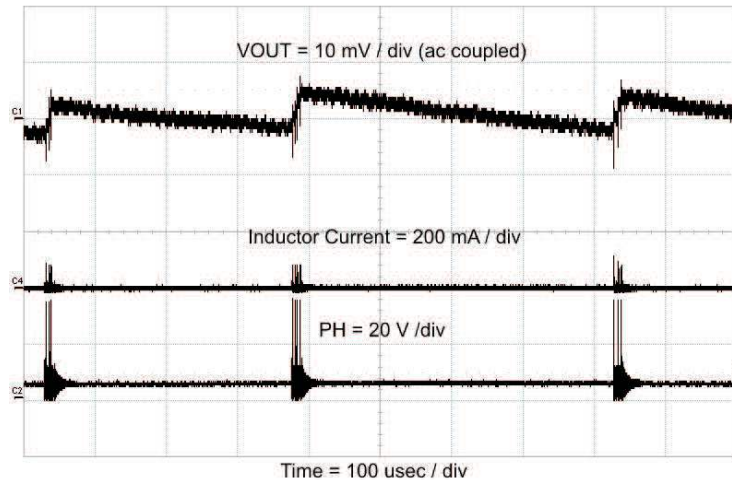

Figure 10. TPS54040EVM-456 Eco-mode™ Operation
Figure 10 shows Eco-mode operation; channel 1 (C1) shows the output voltage, whereas channel 2 (C2) shows the switching node (PH), and channel 4 (C4) shows the inductor current.